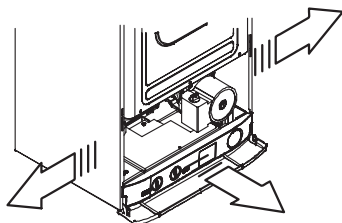

Fig. 6.13
- Remove the side panels or move the lower part of the side panels as indicated in Fig. 6.13 and pull the control panel. When completely pulled out, the panel can rotate 45° downwards to facilitate the operations on the internal parts.